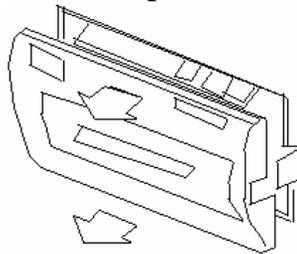

Fig.2-4
(1) Take down the front cover of the printer, as Fig.2-4 shows: